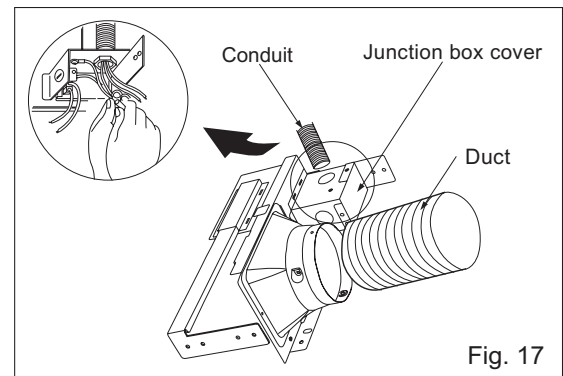

Fig. 17
- (3) Remove junction box cover and secure the existing conduit to junction box knockout hole.(Fig.17)
- (4) Refer to wiring diagram on page 9.
- (6) Install circular duct(4 inch) or optional part (3 inch adaptor connector) that is only for FV-05VF1 and FV-07VF1 and secure it with duct tape as shown in Fig.17.